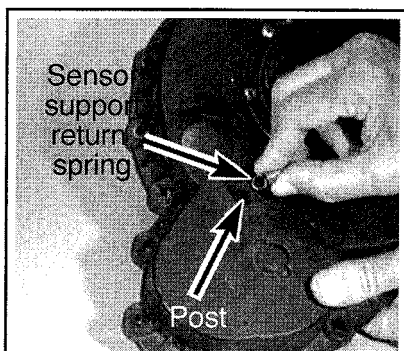

Fig. 44 Free the sensor coil return spring
- ◆ See Figures 44, 45, 46, 47, 48 and 49